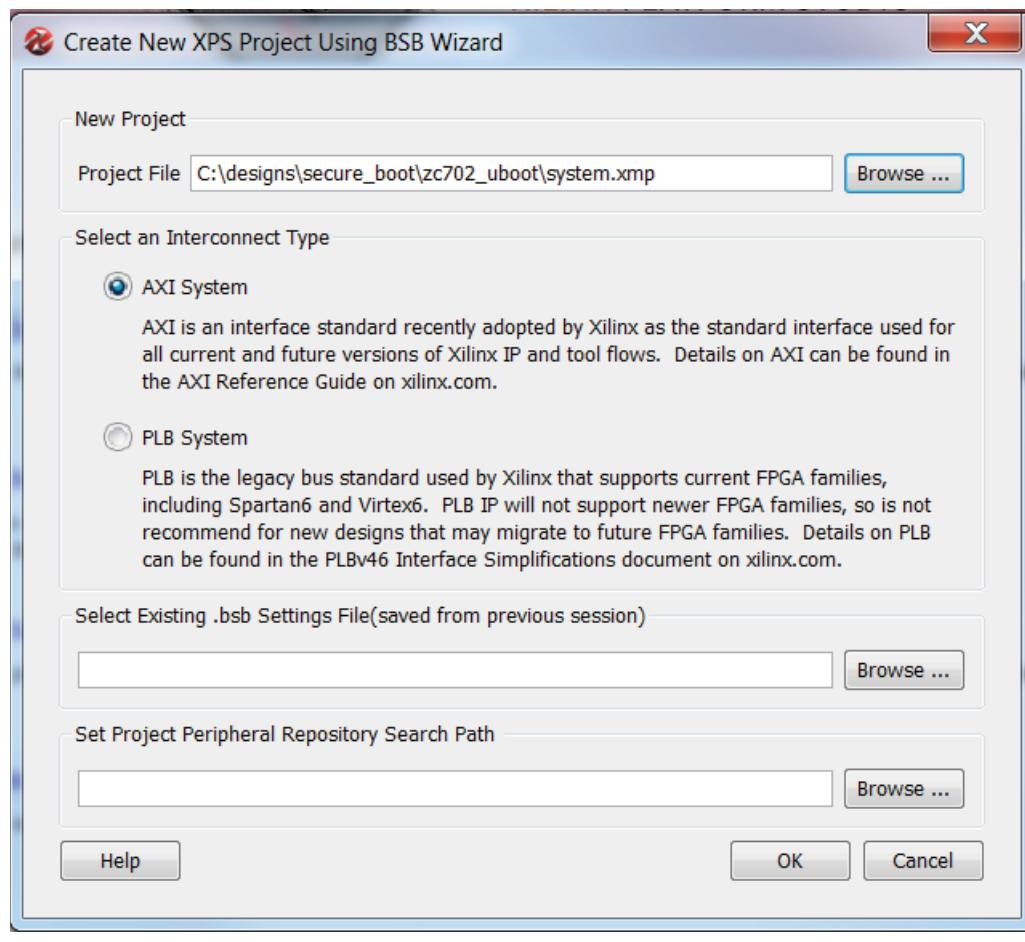

Figure 9: Creating the **zc702_uboot** Base System Builder Project
1. Invoke XPS, by entering **ISE Design Suite 14.6 > EDK > Xilinx Platform Studio** if using Windows, or entering **xps** & if using Linux. In the Getting Started window, click **Create New Project Using Base System Builder**. Browse to the **zc702_uboot** directory. Verify that the **File Name** box contains **system.xmp**. Click **Save**. **Figure 9** shows the creation of a BSB project. Enter a project name in the **Project File** dialog box and click **OK**.